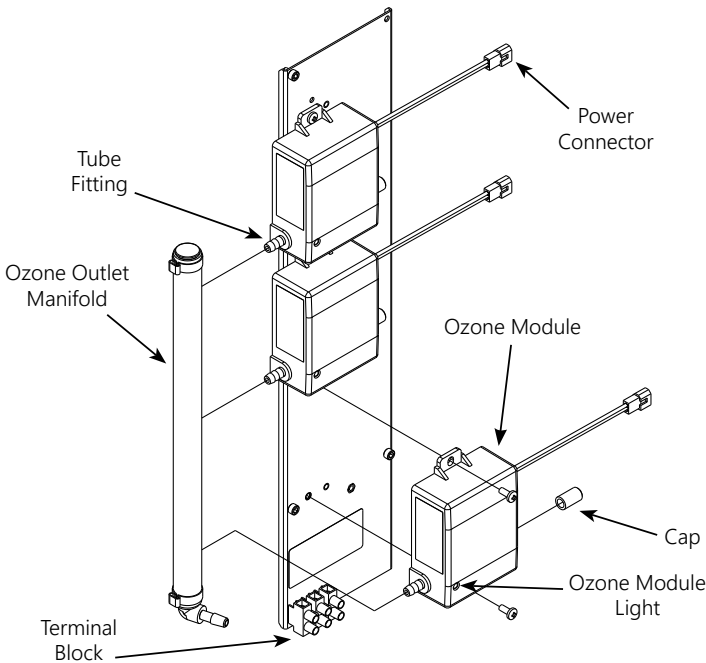

Figure 5: Ozone Generator Subassembly
and install the proper conduit fitting. Remove the cover (Refer to SECTION 4C-1) and locate the terminal block (Refer to Figure 5) on the left side of the enclosure. Connect Line 1, Line 2, and ground to the terminal block as indicated by the label on the generator bracket. Refer to the **IMPORTANT SAFETY INSTRUCTIONS** at the beginning of this manual for important wiring information.
The air entering the ozone modules passes through individual filters on each module inlet. The filters are held in place by the rubber filter cap. (Refer to Figure 5 for a more detailed view)
4C. Ozone Module Servicing - Refer to Figure 5
6. Install the new ozone module by reversing the above steps. Refer to Figure 5 for visual instruction.